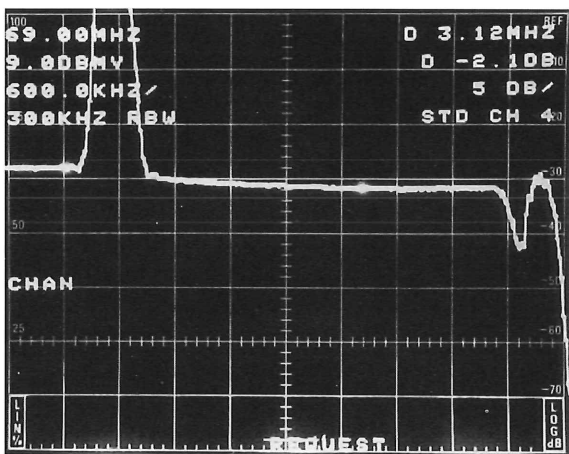

Figure 19. In-channel response using a high-level sweep test signal.
4. Press [D] to turn off DISPLAY STORAGE register D; press [A] to turn on DISPLAY STORAGE register A, then press [MAX HOLD A&B]. After approximately one minute, the display should resemble Figure 19.
6. Press [MKR / Δ / OFF] to enter the marker delta (D) mode.
10. Staying within the range between 0.75 and 5 MHz above the channel boundary, reposition the two markers to the maximum and minimum levels of the swept-frequency signal. The readout indicates the peak-to-peak difference in amplitude between the two markers. Figure 19 indicates a 2.1 dB peak-to-peak (± 1.05 dB) in-channel response variation.